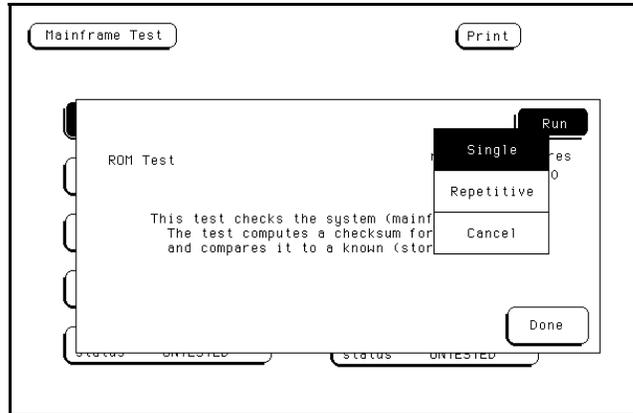

Figure 6-12. Choosing the Single or Repetitive Mode
3. Touch the **Run** field, slide your finger downward to the Single, Repetitive or Cancel field, then lift your finger off the screen. If the Cancel field is selected, the test sequence is not started. See figure 6-12.